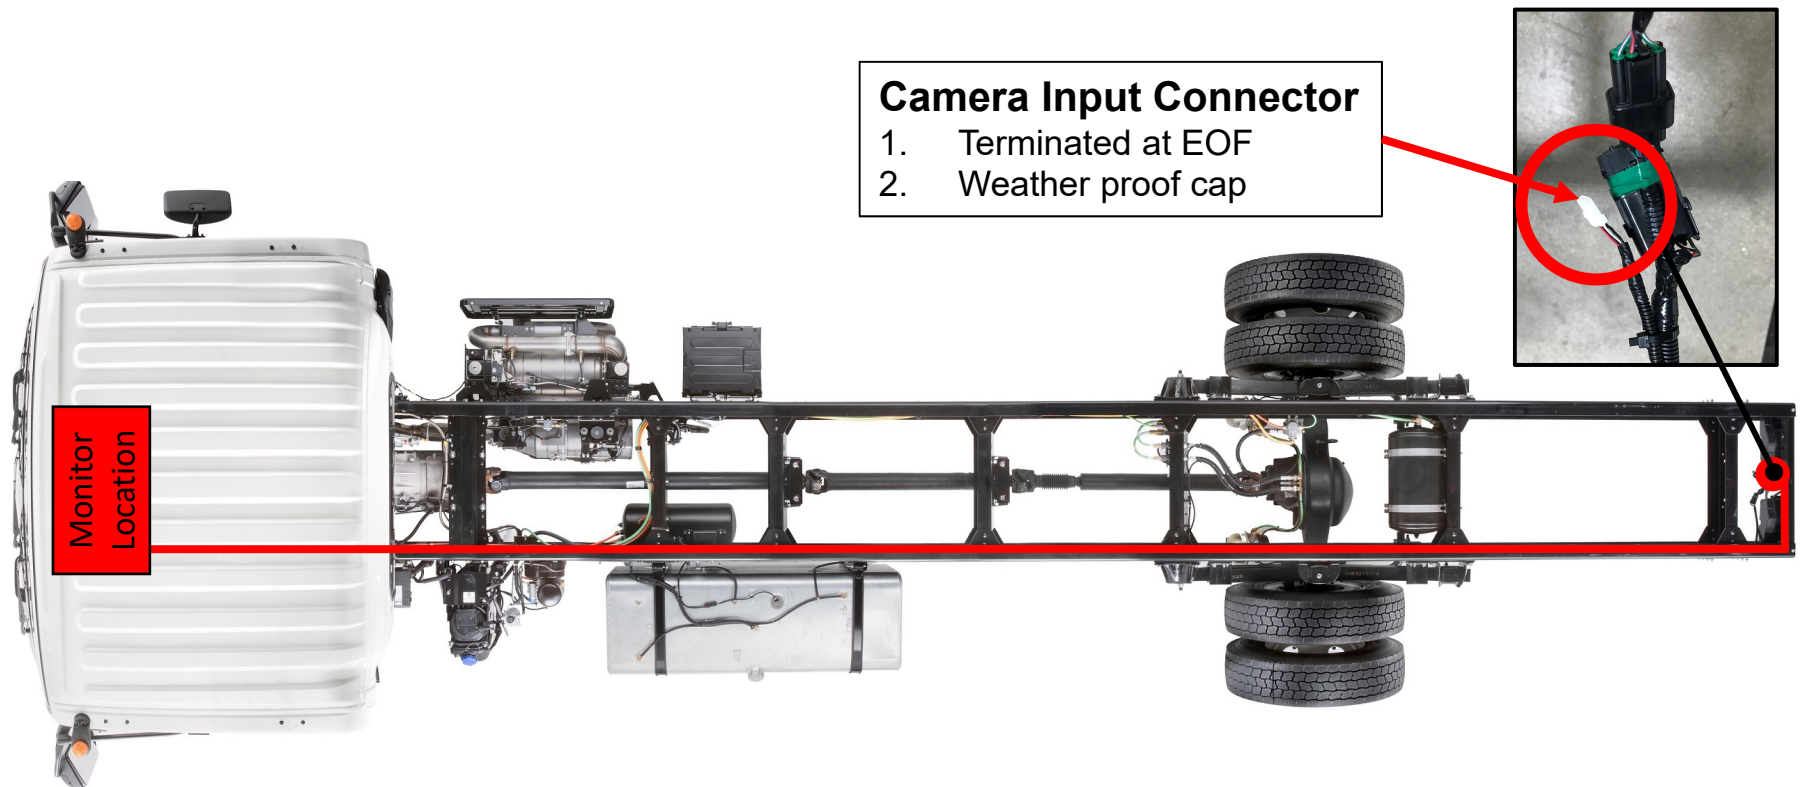

Figure 63
- RPO codes I1V (Audio system with 7" diagonal color touch screen) and I2V (Audio system with 7" diagonal color touch screen with backup camera) will both include a pre-wired camera input connection at the end of the chassis frame. (Figure 63)